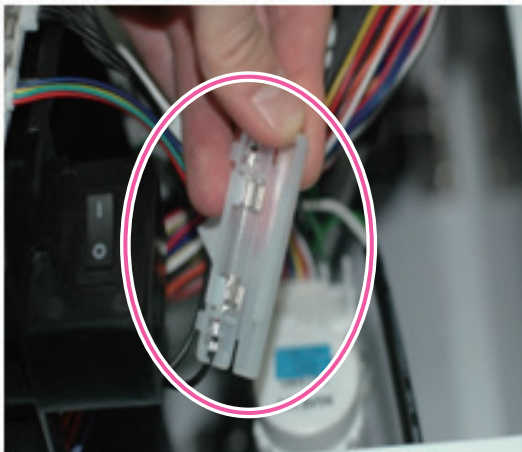

Figure 3
3. Locate the fuse housing shown in **Figure 3** below. Open the housing to expose the fuse.